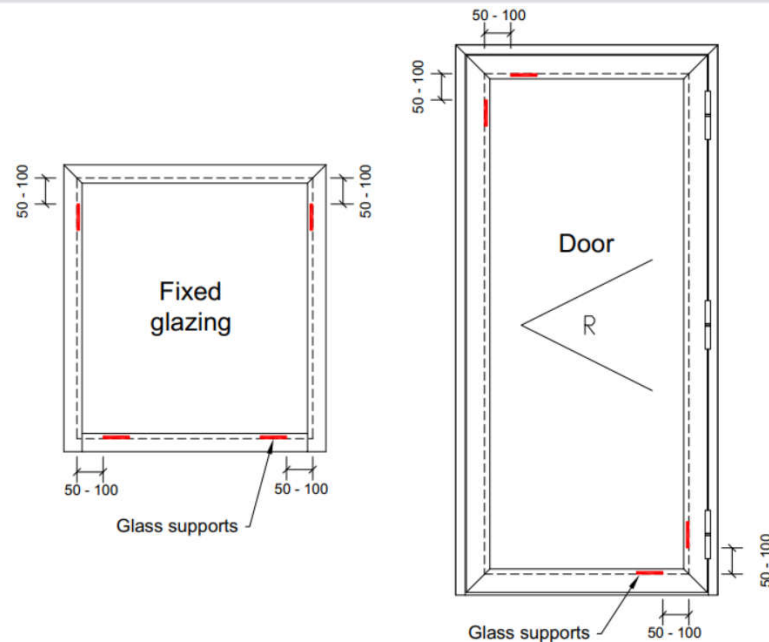

Figure 6 Glass support locations
2. Place glass supports on to the frame. Height of the glass supports must be 10 mm and thickness must be equal to the glass thickness (Figure 6).